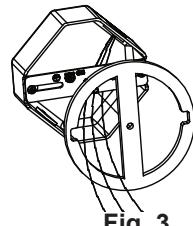

Fig. 3
04. Pull the supply wires through the gasket opening. Adhere the EVA gasket to the crossbar and outer edge of the round, surface mount junction box. Ensure that the centre machine screw on the crossbar is threading through the hole of the EVA gasket (see fig. 3).